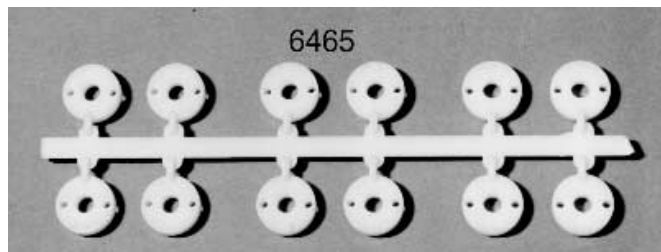

Fig. 112
□ **Figs. 112 & 113** In a separate bag inside the large shock bag you will find the #6465 new PTFE shock piston set. You will find four each of #1, #2, and #3 shock pistons on this piston parts tree. The #1 piston is the lightest damping and the #3 piston is the heaviest damping. On one side of each piston you will find the numbers molded in.